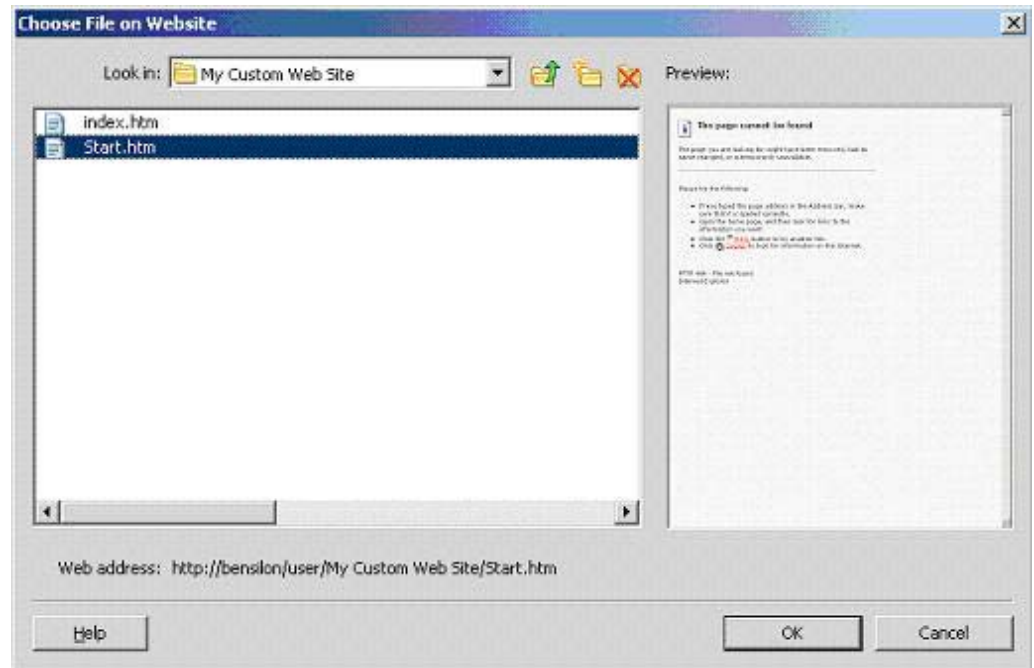

Figure 13.51 Choose File on Website Dialog
2. After you've created and published the **Menu.htm** file, click **Choose** to open the **Choose File on Website** dialog shown in Figure 13.51.
- Click **Choose** to open the **Choose File on Website** dialog shown in Figure 13.51.